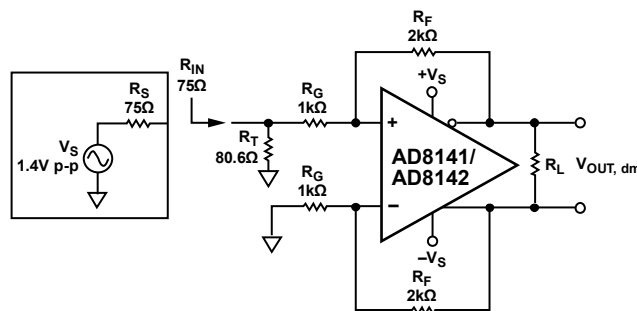

Figure 38. Adding Termination Resistor R_T
3. It can be seen from Figure 38 that the effective R_G in the upper feedback loop is now greater than the R_G in the lower loop due to the addition of the termination resistors. To compensate for the imbalance of the gain resistors, a correction resistor (R_{TS}) is added in series with R_G in the lower loop. R_{TS} is the closest 1% resistor to the Thevenin equivalent of the source resistance R_S and the termination resistance R_T , equal to $R_S || R_T$.